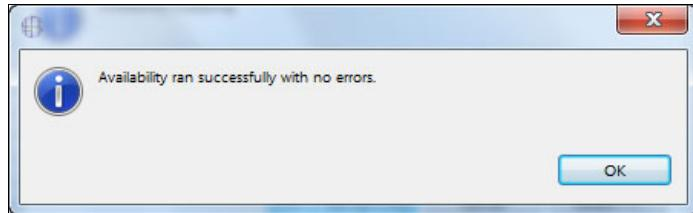

Figure 4-35 Availability ran successfully with no errors message
6. After the CHPID Mapping Tool resets the CHPIDs, it displays the result of the process (Figure 4-35). Click **OK**.